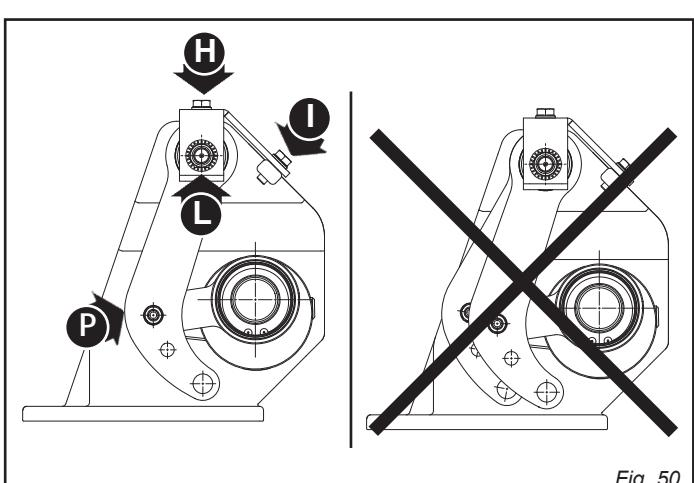

Fig. 50
- CAUTION: do not tighten the screws without having aligned the yokes correctly (P, Fig. 50).